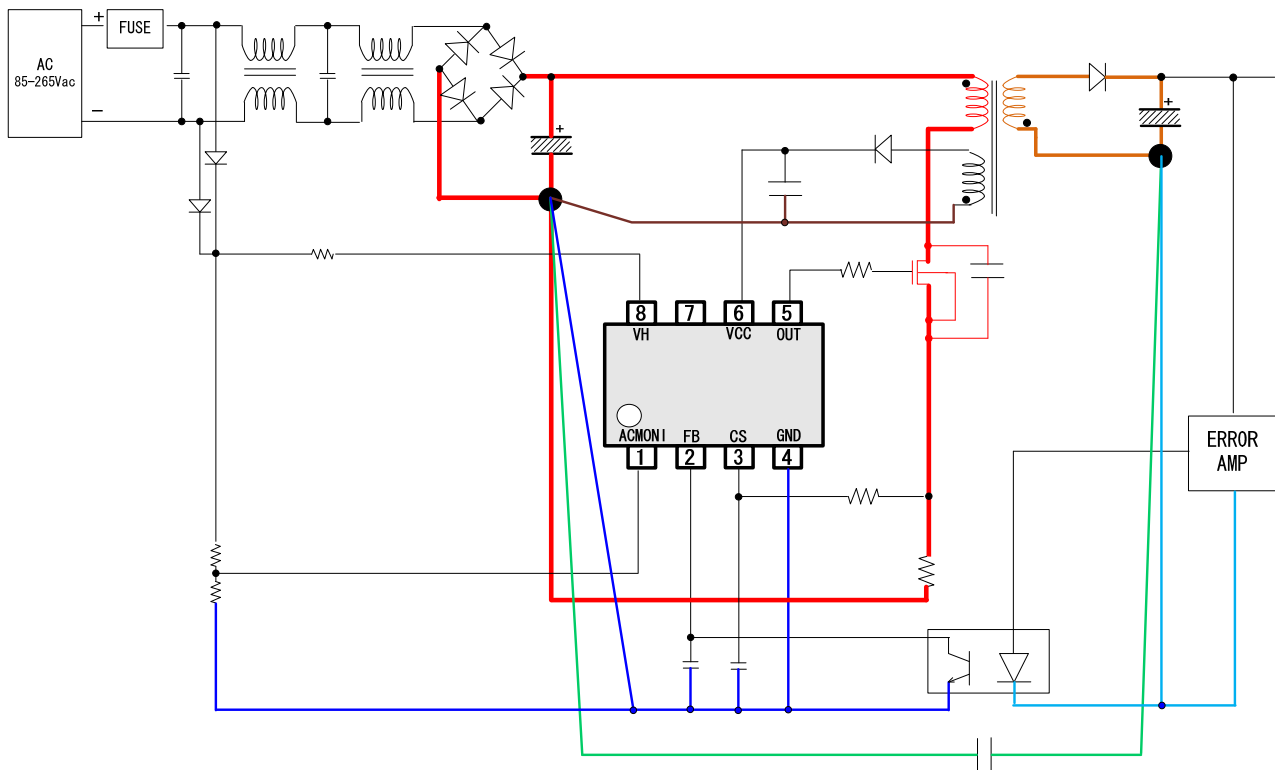

Figure 27. Board Layout Pattern
- ① The red lines shown in Figure 27 are large current pathways. They should be laid out as short and thick as possible to prevent ringing and loss. Also, any loops that occur in the red lines should be made as small as possible.
- ② The orange lines in the secondary side of Figure 27 should also be made as short and thick as the red lines and should be laid out with the smallest loops possible.
- ③ Be sure to ground the red, brown, blue, and green lines at a single point.
- ④ The green lines are pathways for surges on the secondary side to escape to the primary side. Therefore, since a large current may flow instantaneously, they should be laid out independently of the red and blue lines.
- ⑤ The blue lines are GND lines for IC control. Although they do not experience large current flow, they are susceptible to the effects of noise, so they should be laid out independently of the red lines, green lines, and brown lines.
- ⑥ The brown lines are current pathways for the VCC pin. Current flows through these lines during switching, so they should also be laid out independently.
- ⑦ Do not route any IC control lines directly under the transformer, since they may be affected by magnetic flux.